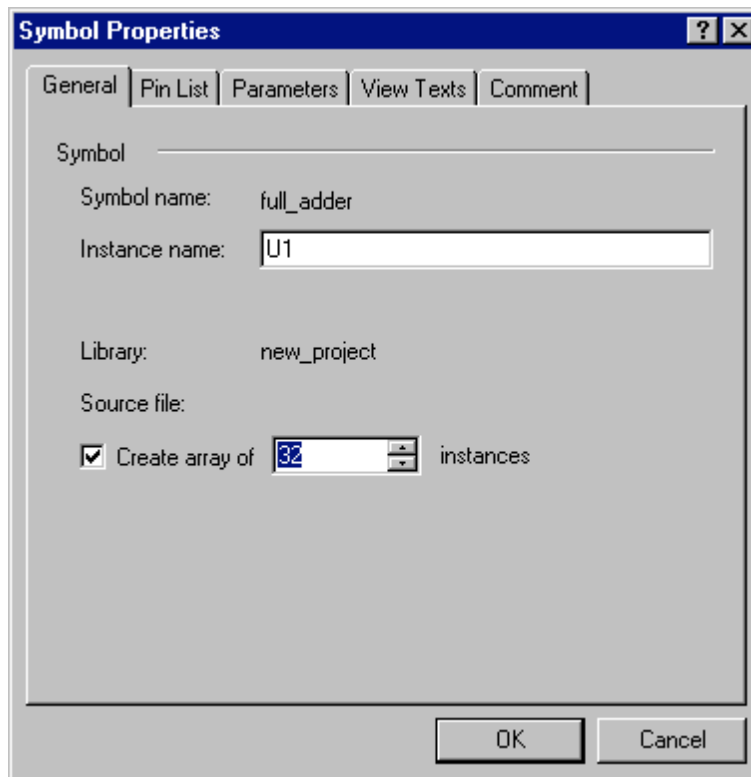

Figure 12
4. Under the heading “Source file”, select the “Create an array of (#) instances”, and enter 32 in this field. (See Figure 12)
5. Under the “View Texts” tab in Figure 12, check the box next to the “Array Value” option. Then click the OK button.